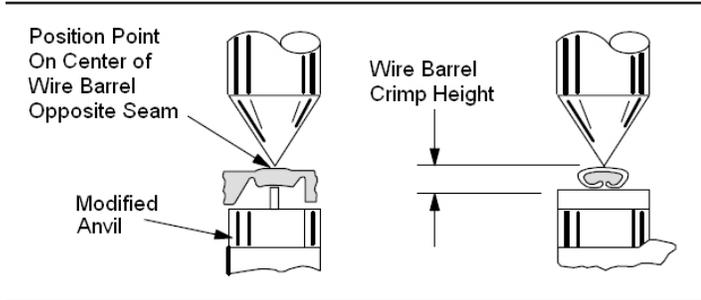

Figure 4
This inspection requires the use of micrometer with a modified anvil as shown in figure 4.
3. Using a crimp height comparator, measure wire barrel crimp as shown in Figure 4. If the crimp height conforms to that marked on the tool, the tool is considered dimensionally correct.